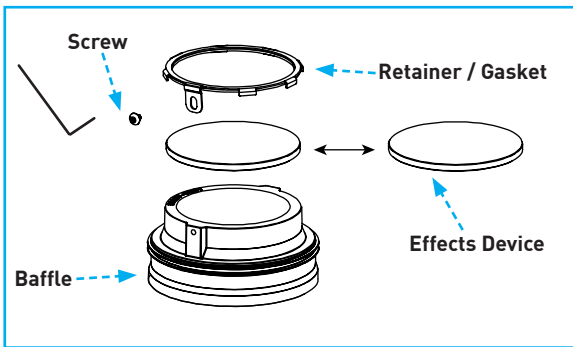

Fig.62
- A. Grasp baffle using soft gloves or with clean soft cloth and remove by pulling down or inserting small flat head screwdriver to wallwash baffles and carefully prying down as shown in *Fig.62*.
- C. To change lens / film, remove lens retainer and gasket by loosening and removing hex screw with the provided Allen wrench. Insert preferred lens / film in proper orientation, securing with lens retainer / gasket and replacing and tightening screws (Fig.62). Lens is not serviceable on wet rated baffle assemblies.